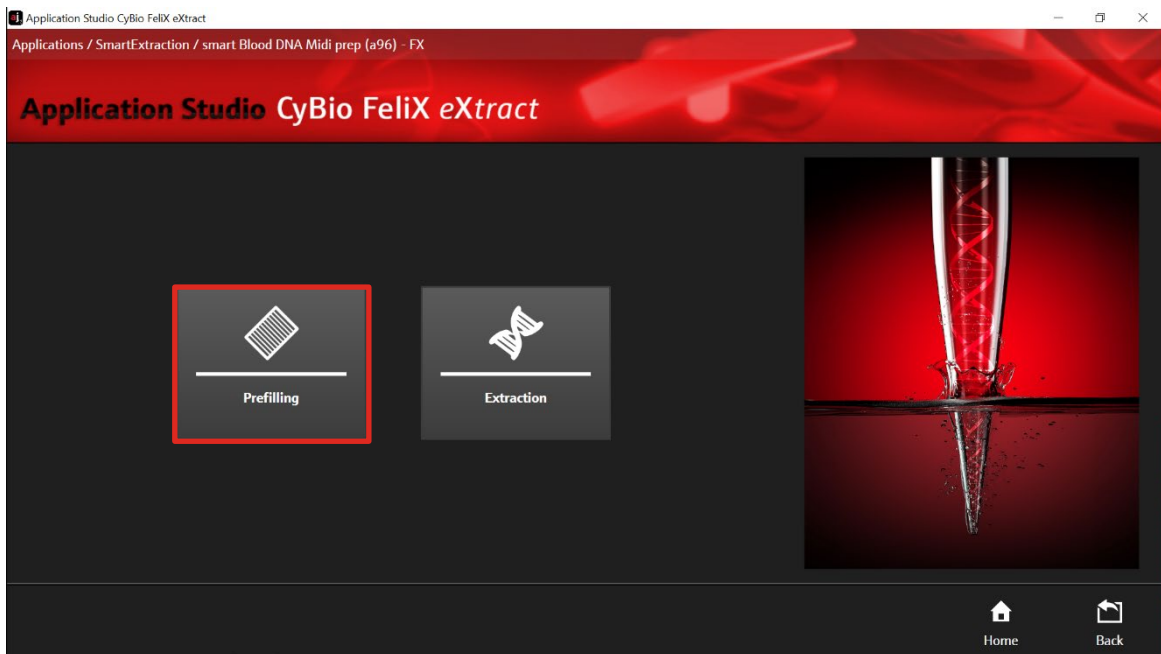

Figure 6: Routine selection: Prefilling.
14. Choose "Prefilling" (→ see Figure 6).